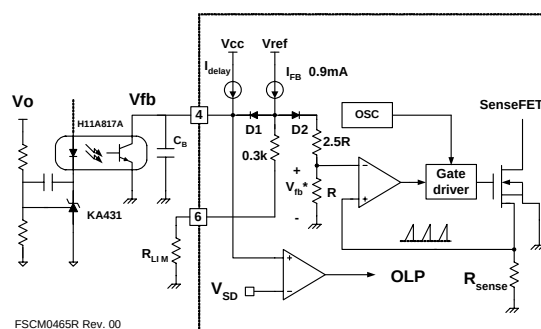

Figure 18. Pulse Width Modulation (PWM) Circuit
2. Feedback Control: The FSCM0465R employs current mode control, as shown in Figure 18. An opto-coupler (such as the H11A817A) and a shunt regulator (such as the KA431) are typically used to implement the feedback network. Comparing the feedback voltage with the voltage across the R_{sense} resistor makes it possible to control the switching duty cycle. When the reference pin voltage of the KA431 exceeds the internal reference voltage of 2.5V, the H11A817A LED current increases, pulling down the feedback voltage and reducing the duty cycle. This event typically happens when the input voltage is increased or the output load is decreased.
2.1 Pulse-by-pulse Current Limit: Because current mode control is employed, the peak current through the SenseFET is determined by the inverting input of the PWM comparator (V_{fb}^*) as shown in Figure 18. When the current through the opto-transistor is zero and the current limit pin (#5) is left floating, the feedback current source (I_{FB}) of 0.9mA flows only through the internal resistor ($R + 2.5R = 2.8k$). In this case, the cathode voltage of diode D2 and the peak drain current have maximum values of 2.5V and 2.5A, respectively. The pulse-by-pulse current limit can be adjusted using a resistor to GND on the current limit pin (#5). The current limit level using an external resistor (R_{LIM}) is given by: